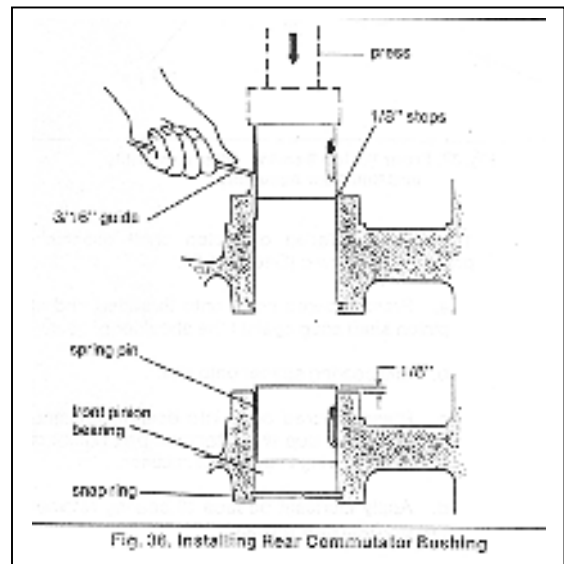

Fig. 36. Installing Rear Commutator Bushing
- b.). Set guide (3/16" brass or steel rod, bent to a right angle) as shown to insure line up of spring pin groove in bore and commutator shell groove. See fig.36